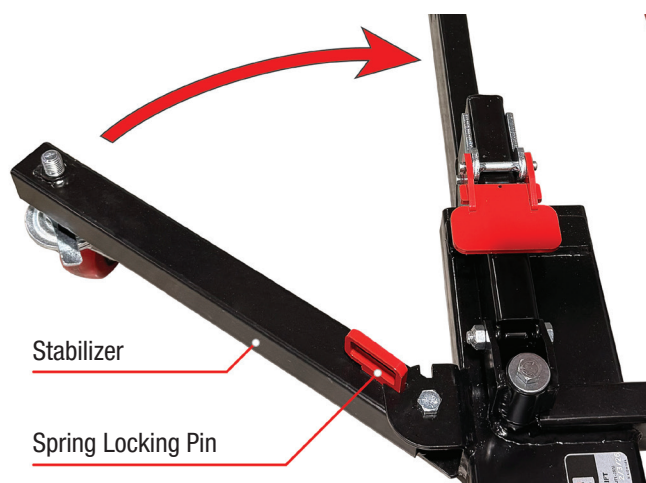

Figure 7-1: Storing Stabilizer Legs
3. Unlock stabilizer legs by pulling up the spring locking pins. Rotate each stabilizer leg from the wide-stance stabilizing position to the closed (front) position (parallel to the lifting forks). Spring locking pin will snap into place to lock stabilizing leg in this position (see Figure 7-1).